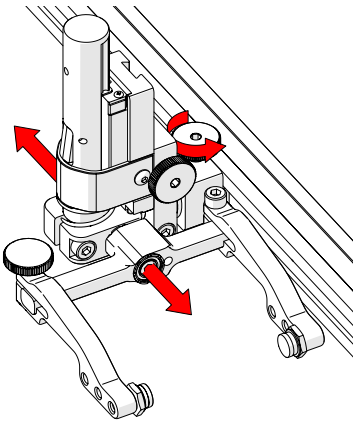

Fig. 41 - Adjust on frame bar
1. The probe holder adjustment knob allows the probe holder to be attached to a frame bar, as well as horizontal positioning on a frame bar (Fig. 41).